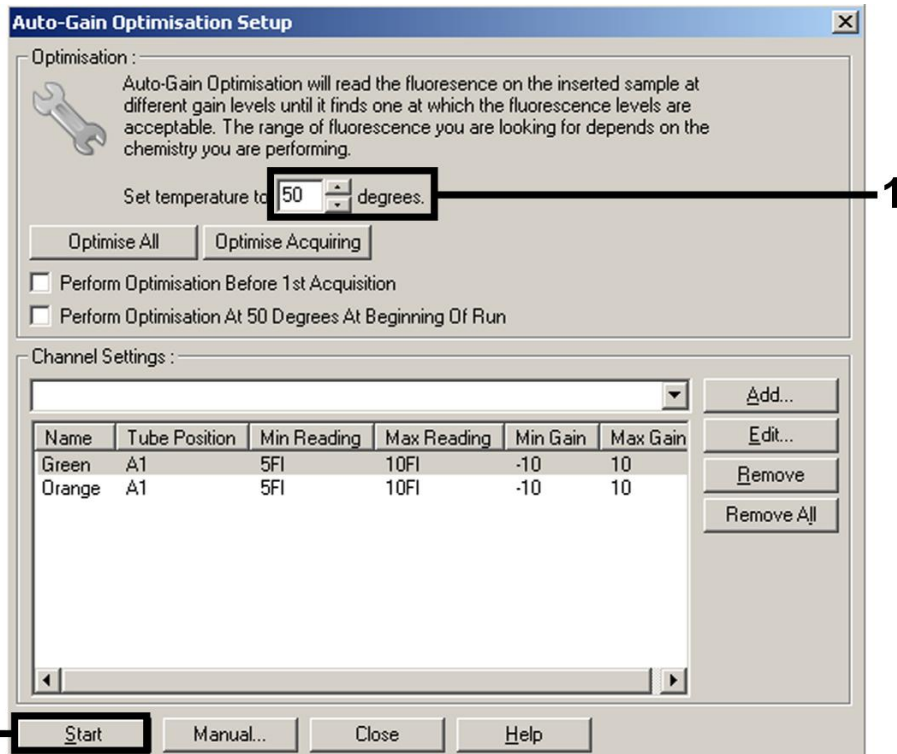

Figure 7. Adjusting the fluorescence channel sensitivity. Screenshot for the artus HI Virus-1 QS-RGQ Kit is shown as an example.
- 6b. Set the calibration temperature to match the annealing temperature of the amplification program, and adjust the fluorescence channel sensitivities (Table 2 and example screenshot in Figure 7).